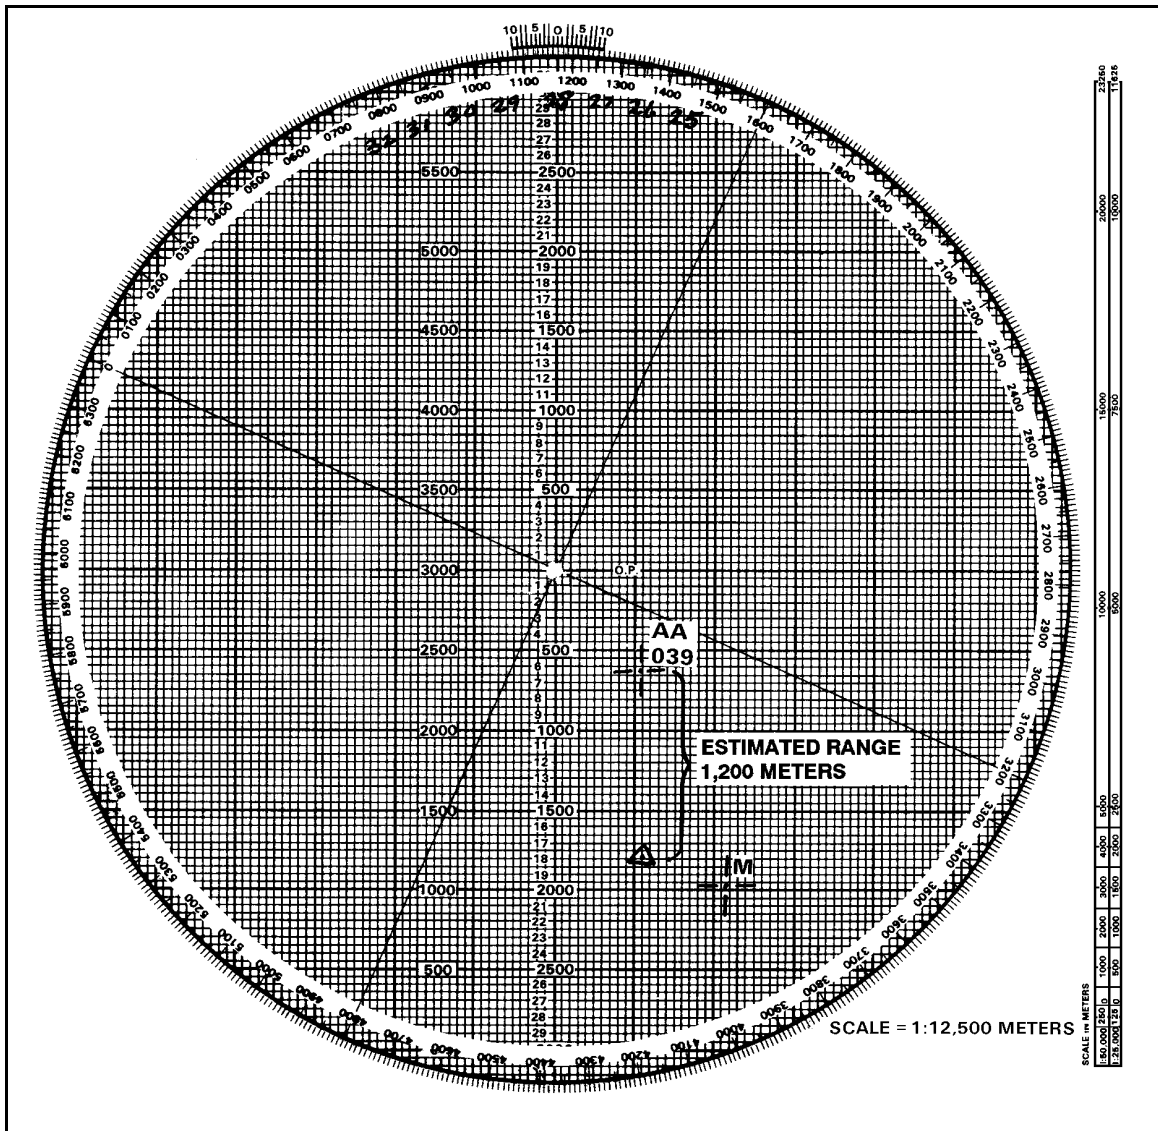

Figure 12-25. Estimate of range from reference point of FO's location.
c. **Range and Azimuth from a Known Point.** The FO must send the range from the known point and the azimuth on which that point is seen. Once that is known, the computer can index the azimuth, drop below the known point the range given, and plot the FO's location (Figure 12-25). For modified and surveyed charts, the FO's location can be plotted if the grid of the FO is known, by indexing "0" and plotting the FO grid. If the grid is not known, then the computer can use resection, direction and distance, or range and azimuth from a known point.